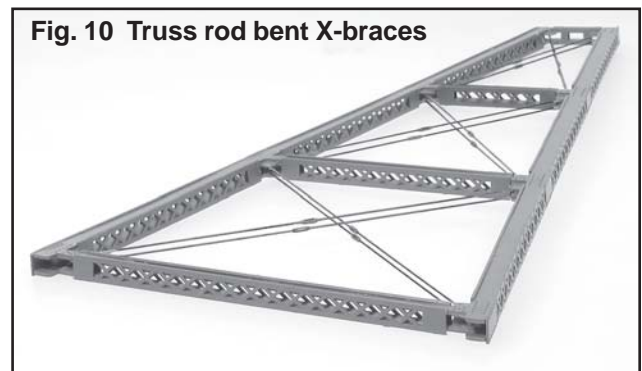

Fig. 10 Truss rod bent X-braces
9. Truss Rod Modification: Narrow gauge or light weight steel viaducts often used truss rod X-braces instead of the cross-laced lattice X-braces. To use truss rod bent X-braces, substitute .018" dia. brass wire (not included) and Grandt #4019 turnbuckles (not included) for the bent X-braces parts (11), (12) and (13). The truss rod modification will require 24 turnbuckles and three 36" lengths of brass wire. See fig. 10 & 11.
Tip: The turnbuckles were often located near the center of the truss rods as shown in fig. 10 & 11. Alternatively, they were sometimes located approximately six feet above the bent struts so the turnbuckle could be reached and tightened by a worker standing on the bent strut.